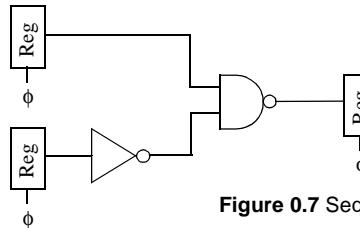

Figure 0.7 Sequential Circuit
- Consider the circuit shown in Figure 0.7.